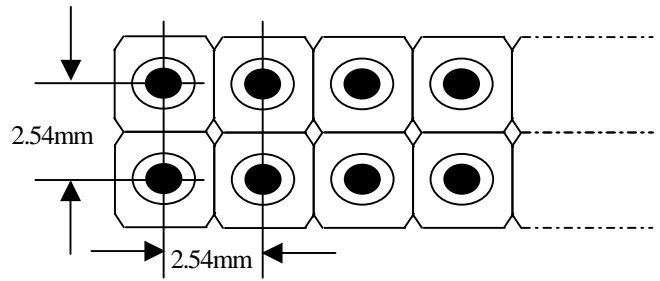
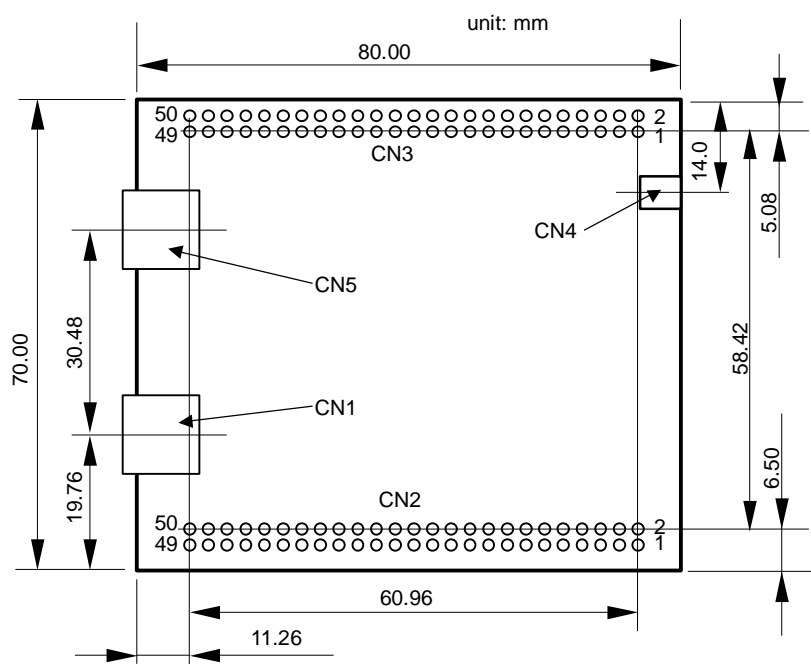

Figure 3. Pin Pitch of Connectors CN2 and CN3
Figure 4. Pin Direction of Connector CN2 and CN3 (Top View)
- (1) The receptacle of the target board should suit the size of this board (refer to Figure 3 and Figure 4). Make pin arrangement the same as this board (refer to Table 1 and Table 2). Please refer to Appendix 1: the M3A-0040 Part List and Appendix 2: the Circuit Diagram, when selecting connector and pin arrangement. The HKP-50FD2 from Honda Tsushin Kogyo is applicable to the target board.
- (2) To prevent misinsertion, please carry out stuffing the pins of target board that correspond to the #21-pin and #22-pin of CN2 of this board. When HKP-50FD2 of Honda Tsushin Kogyo is used as a receptacle, the GM-25K of this company is suitable for stuffing.
- (3) The R8A66597FP generates a core power 1.5V from VCC 3.3V. An internal regulator makes 1.5V from 3.3V through the #19-pin and #20-pin of CN3 and outputs 1.5V to VDD pin. On the M3A-0040, 4.7uF and 0.1uF capacitors are mounted as smoothing capacitors for VDD.
- (4) The interface power supply VIF is 1.8V or 3.3V.
- (5) Use SD0-SD7 of CN2 when using split bus for DMA. SD0-SD7 can be used also as a general-purpose port.
- (6) Processing for unused pin : Please refer to the R8A66597 datasheet, USB2.0 Dual Function Controller R8A66597FP/DFP, for details.